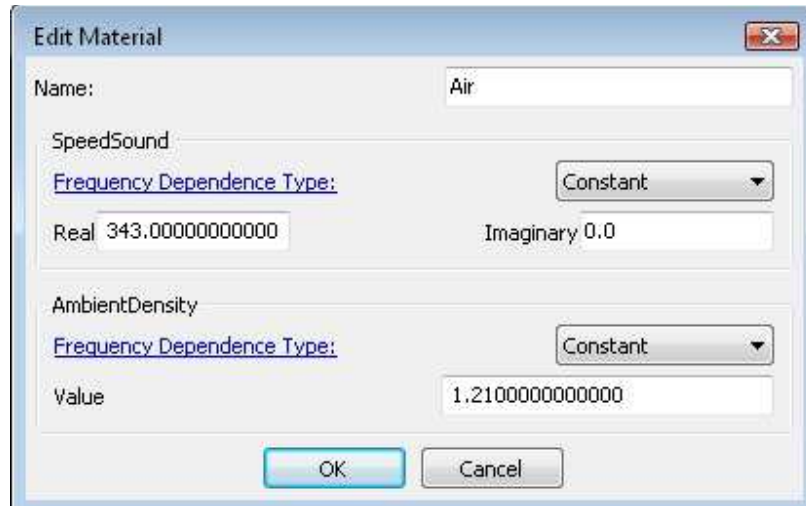

Figure 14: Edit material properties.
- In the main model menu select: **Model > Materials > Air**. Right-click on **Air** and select **Edit...** Figure 14 will appear.